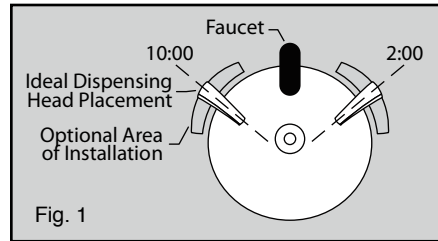

Fig. 1
2. If drilling a new hole, it is recommended the hole be away from the faucet, preferably in the 10 o'clock or 2 o'clock position (see figure 1).